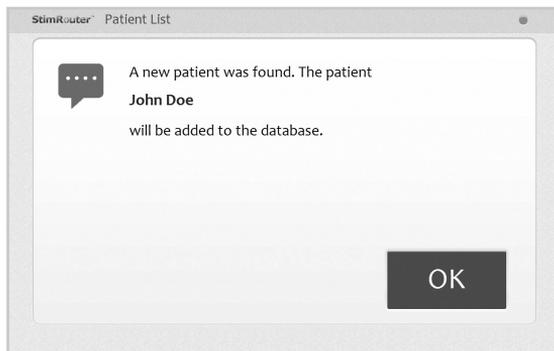

Figure 8-3: Adding a patient with an assigned system
3. The Clinician Programming software will automatically prompt that a new patient was found and to add the patient to the clinician programmer database. Press "OK". See Figure 8-3.